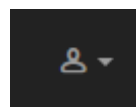

Figure 11. Partner Portal (Profile icon)
3. Hover the mouse cursor over the Profile icon in the upper right-hand corner of the web page (Figure 11 \(page 32\)). Click the **Account** option.